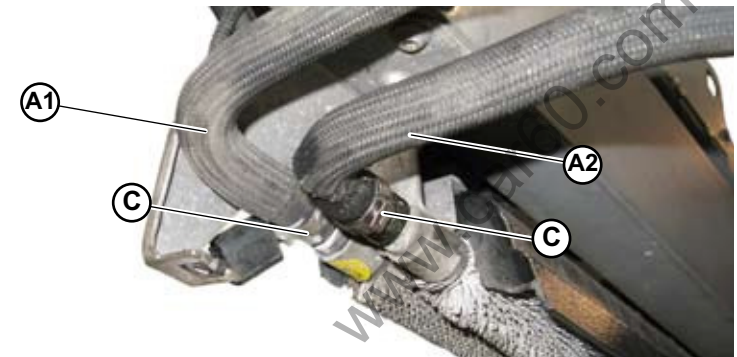

Fig.8
To remove the 2 mounting brackets (**E-Fig.8**) of the conveyor, unscrew the 4 screws (**F-Fig.8**) (2 screws per bracket).
3. Cut the two clamps **(C-Fig.8)** to disconnect the power steering circuit pipes **A1** and **A2** from the radiator.